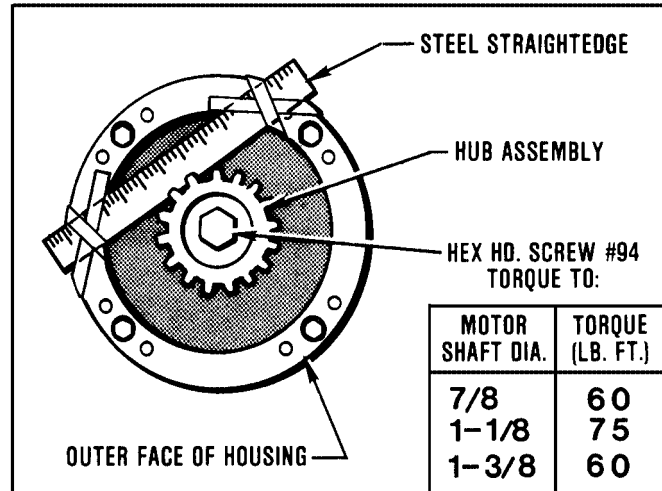

Figure 3-3
1. Tape a steel straightedge to the outer face of the housing as shown in (Figure 3-3).
3. After the hub has been properly positioned retain it from turning and tighten H.H.C.S. #94 (See Figure 3-3) for proper torque reading.